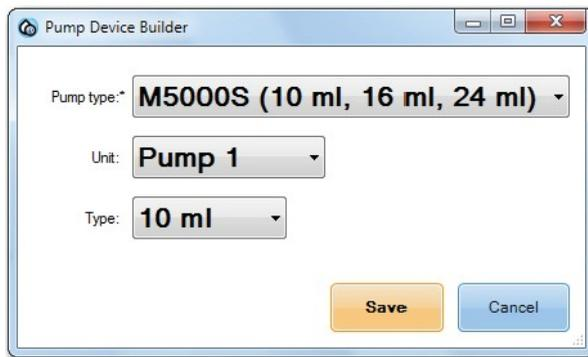

FIGURE 4-8: Adding a new pump
- In the Pump Device Builder dialog box, make the desired selections and click **Save**. See Figure 4-8.